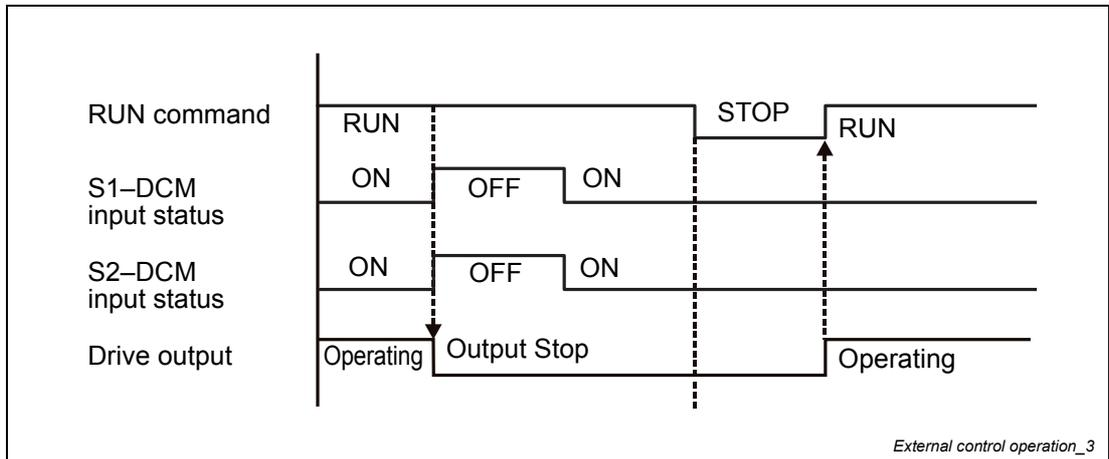

Fig. 12-7: Signal course when enabling S1-DCM, S2-DCM with Pr. 06-44 = 1
As shown in fig. 12-7, when both of S1-DCM and S2-DCM are OFF during operation (STO function is required), the drive stops outputting. When the S1/S2 status is restored (ON), the STO alarm clears automatically. The drive outputs when the RUN command is executed again.